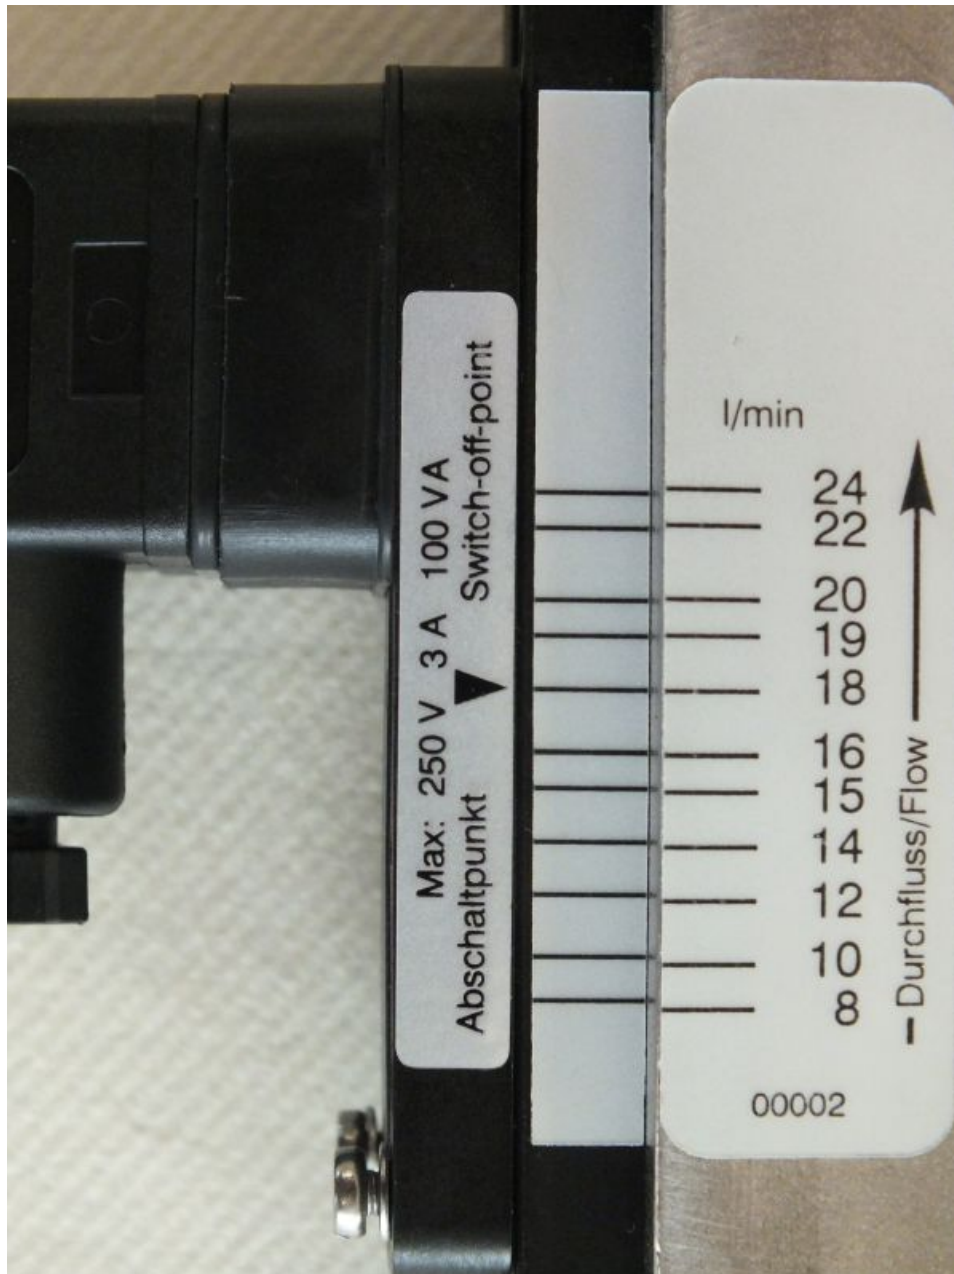

Fig. 41: Reading-off the switch point value (example)
1. Make sure that the setting arrow, the scale mark on the positioning aid label (adhesive label on the guide rail) and the appropriate scale mark on the switch point adjustment scale are in alignment. (Fig. 41).